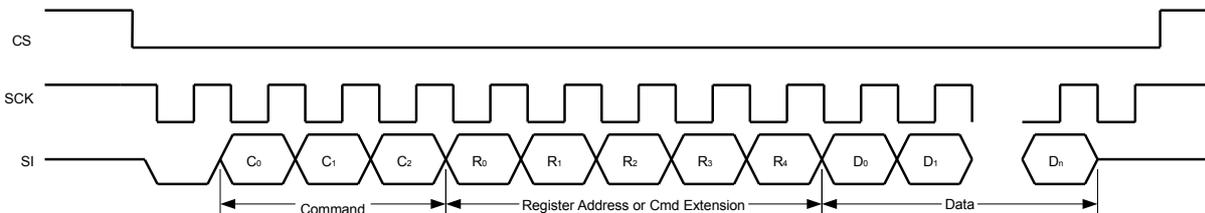

Figure 17: Communication to the interface device (Direct Command)
1. Commands which communicate to the interface chips, also called "Direct Commands" (Figure 17).